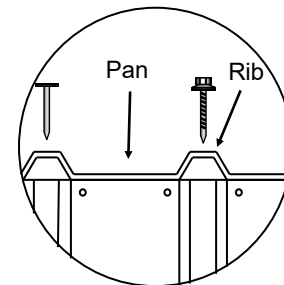

fig.3
- Using 4 x 50mm Clouts, pre-drill and nail the Roof Sheets to the Top Plates at each corner, ensuring ribs on the Roof Sheets line up with ribs on the Wall Sheets (**fig.3**).